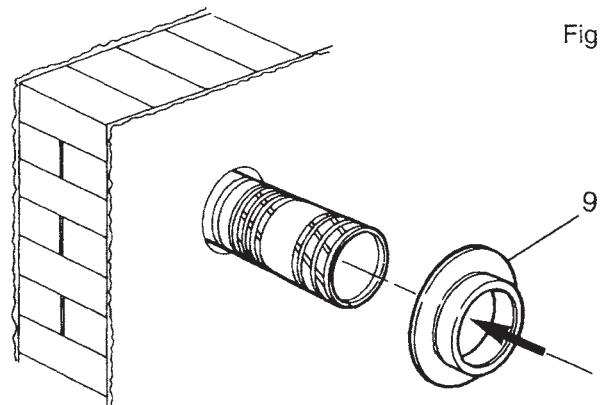

Fig. 37
5.7.10 IMPORTANT: Terminal rubber must be fitted (Fig. 37).